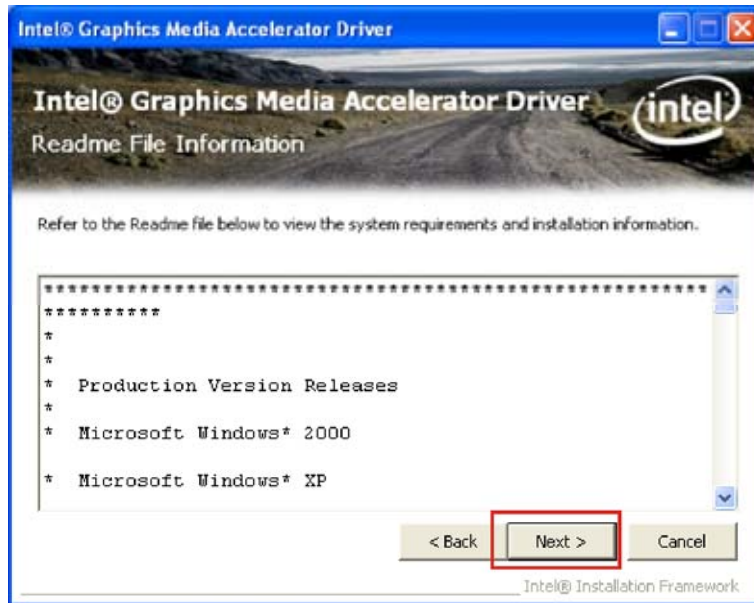

Figure 7-13: VGA Driver Read Me File
Step 30: The Readme file in **Figure 7-13** appears.